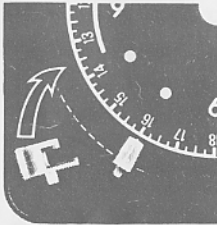

Fig 3
- In the event of power cuts etc, remember to reset the clock by turning clock fingers **clockwise** only using clock adjuster knob. Fig 3. illustrates tappets being inserted into outer dial — short leg of tappet faces middle of clock.